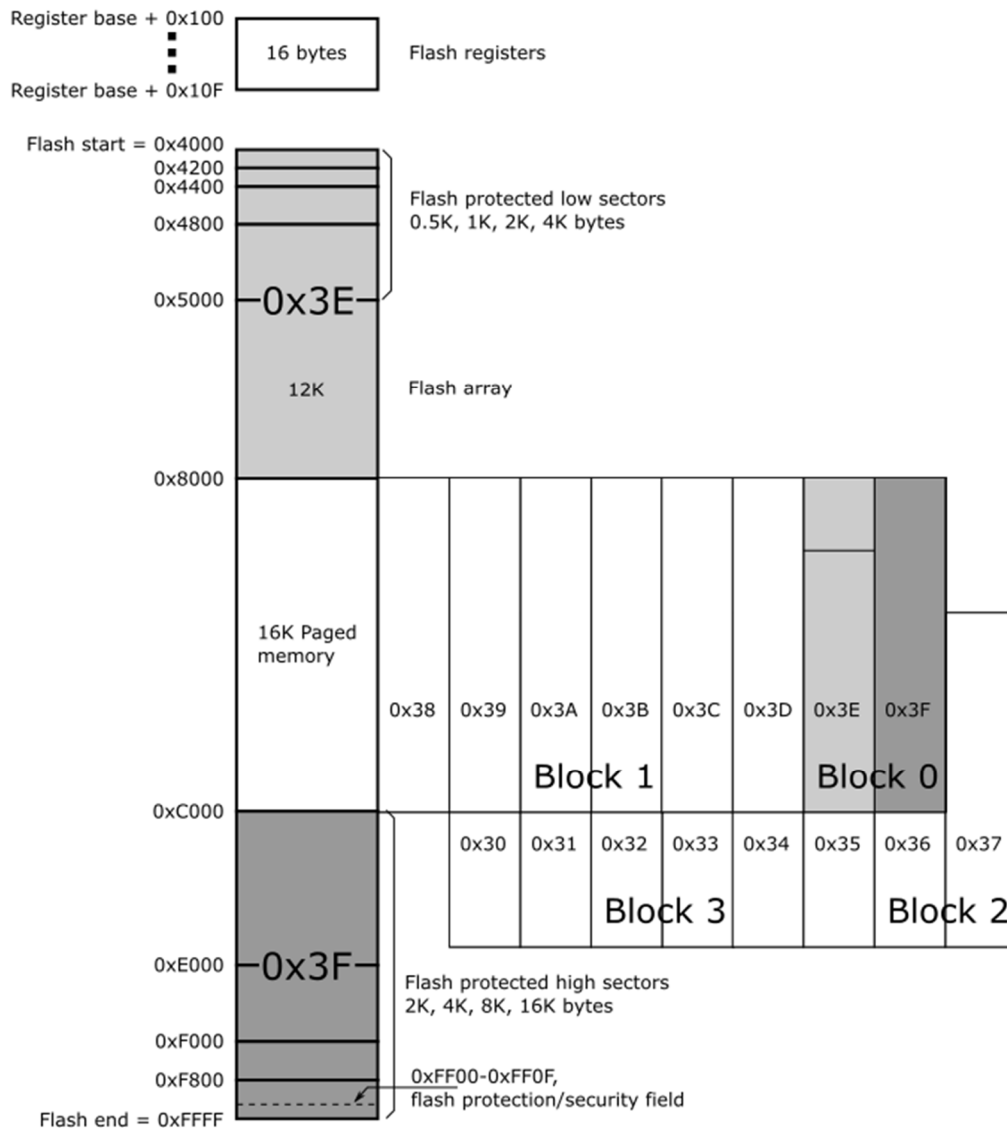

Figure 8.2 S12D256 Flash memory layout according to [18]
The amount of Flash memory available on each S12 family member can vary in size between 32kB and 1MB. Memories larger than 64kB are divided in two or more blocks 64kB in size (4 such blocks in the case of 256K flash) which can be read, erased or programmed concurrently. The entire Flash memory is organized into 16kB pages as illustrated in Figure 8.2. The last two pages in Block 0 will be directly mapped to fixed memory locations. Page 0x3E will be directly accessible in the 0x4000-0x7FFF interval while page 0x3F will always be directly accessible at 0xC000-0xFFFF. All the pages can selected
- **FPHSx (Flash Protection Higher address Size)** – these bits determine the size of the protected sector in the higher Flash address space according to Table 8.2 also illustrated in Figure 8.2.
- **FPLSx (Flash Protection Lower address Size)** – these bits determine the size of the protected sector in the lower Flash address space according to Table 8.3 also illustrated in Figure 8.2.